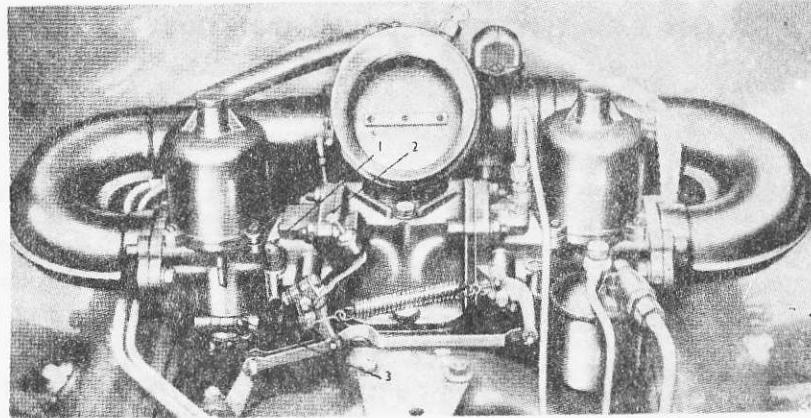

Fig. K3 (S) The carburetters
Screw down each idle bleed adjusting screw, shown in Figure K3 (S) of this Supplement, to the full extent of its travel, then unscrew $1\frac{1}{2}$ turns.
The mixture strength is regulated by the jet adjusting screw, shown in Figure K3 (S) of this Supplement, which should be manipulated until the jet is level with the top of the bore in which it is located. Then screw the adjusting screw two complete turns down.